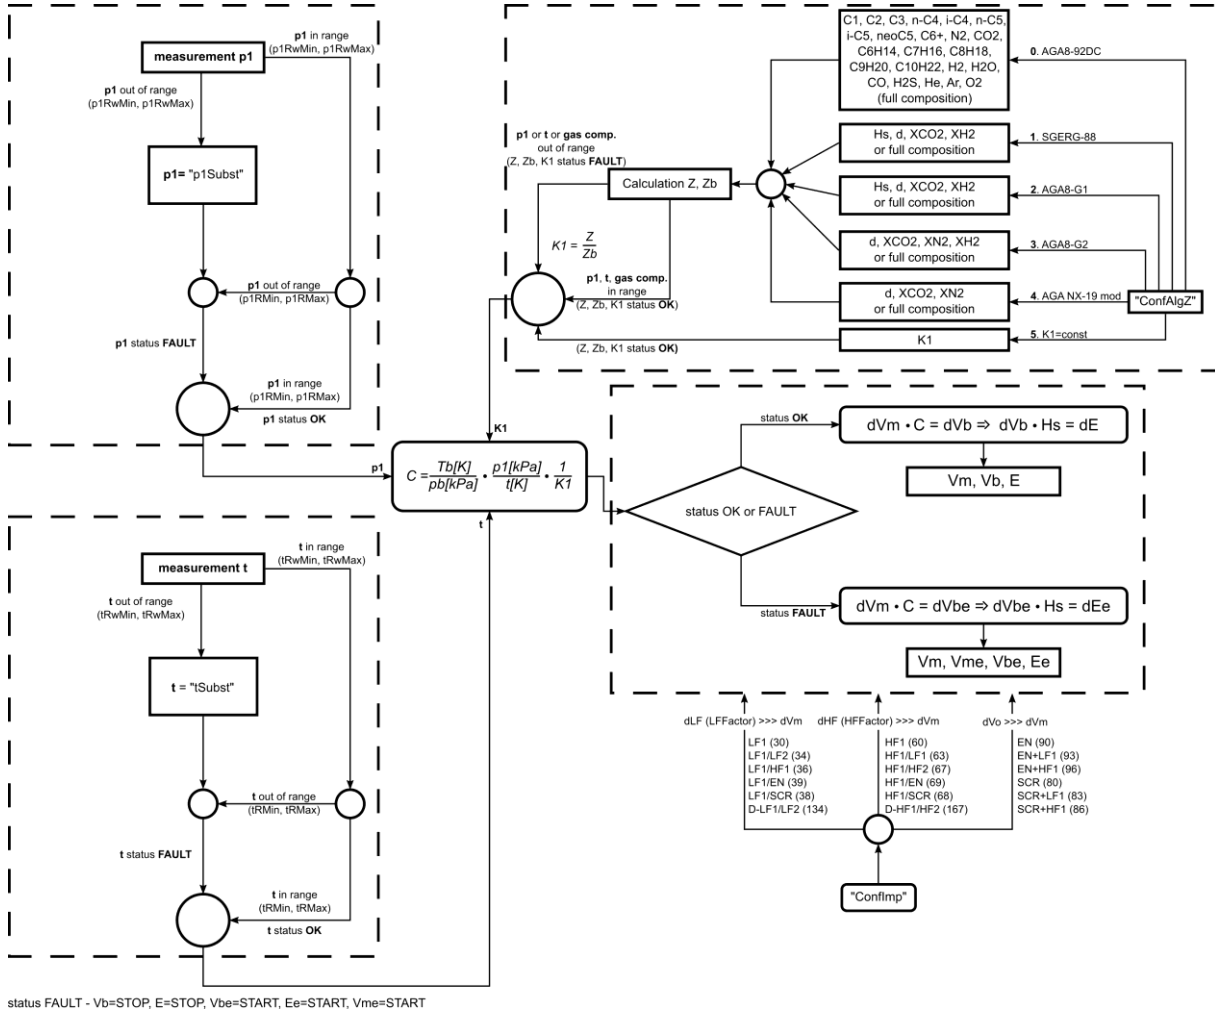

Figure 1. Diagram of calculation algorithm operation
- pressure $\mathbf{p1}$ and temperature \mathbf{t} , coming from modules at the left side of Figure 1.